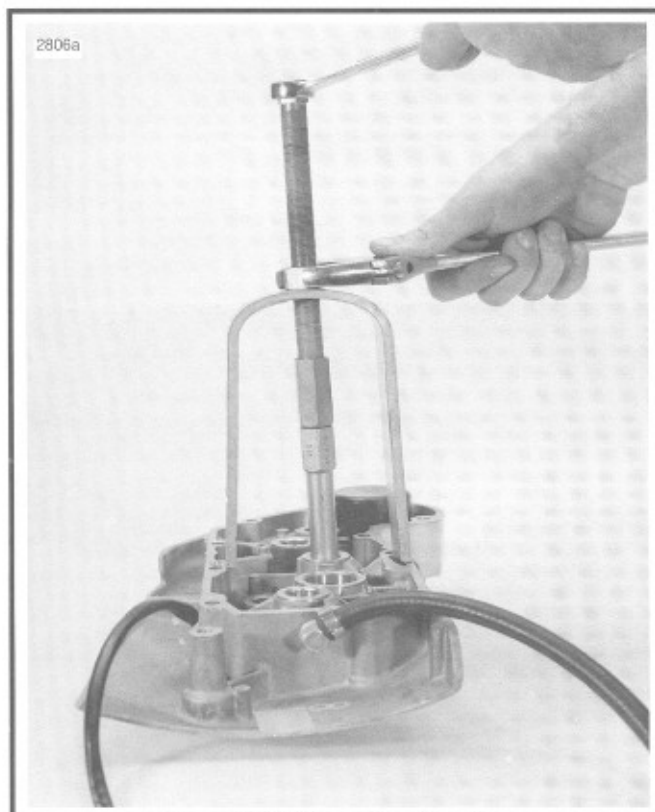

Figure 3-63. Removing Bushing
- See Figure 3-63. Use a BUSHING AND BEARING PULLER (Part No. HD-95760-69A) to remove bushings from gearcase cover and crankcase.